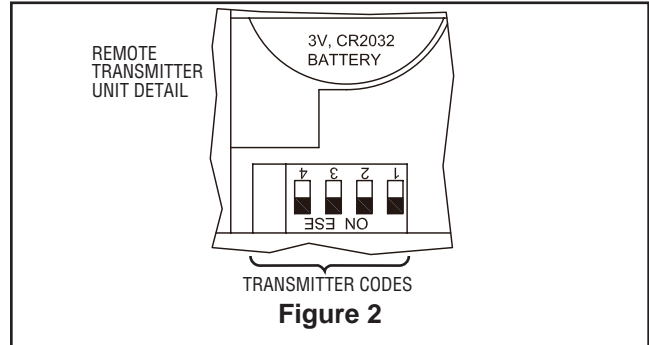

Figure 2
1. Securely attach the hanger bracket to the outlet box using the outlet box screws and washers supplied with the outlet box (Figure 2).
1. To set the transmitter code, remove battery cover by pressing firmly below arrow and sliding cover off. Slide code switches to your choice of up or down position. Factory setting is all up. Do not use this position. With a small screwdriver or ball point pen slide firmly up or down. Replace battery cover on the transmitter (Figure 2).